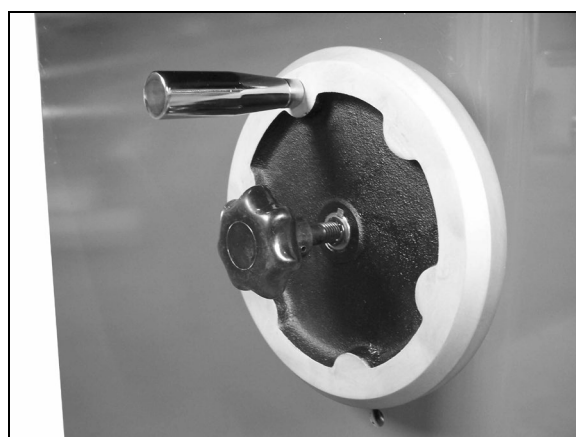

Figure 3
1. Screw in the speed handle and angle lock knob into their respective holes as shown in figure 3. Use the supplied wrench to securely tighten the speed handle. Do the same for both handwheels.